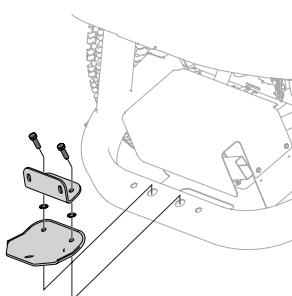

Figure 4
- Install bracket assembly to the tractor's lower frame with two capscrews (710-0376). See Figure 4.